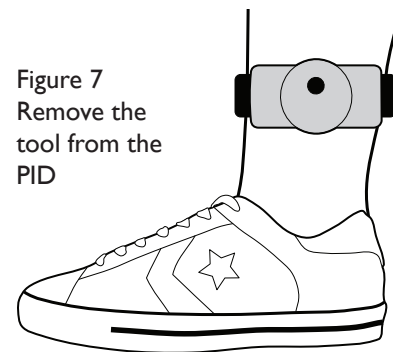

Figure 7
13. Close the **Strap Fitting Lever** and remove the tool from the PID. **(Figure 7)**